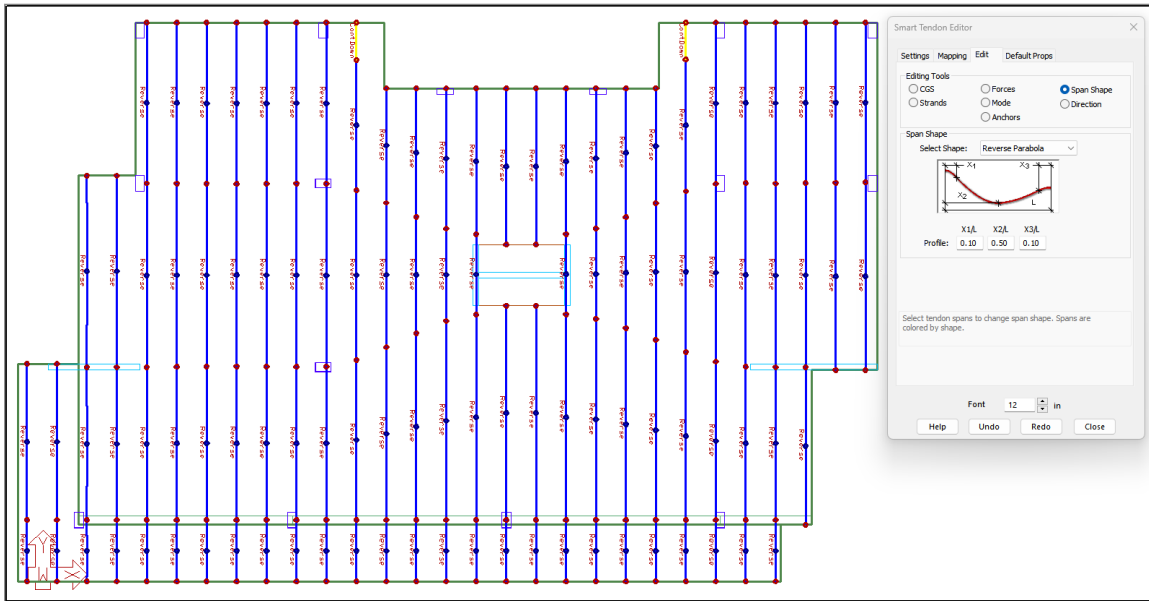

FIGURE 9-79
- Once these changes are made, your model will look like **FIGURE 9-79**.